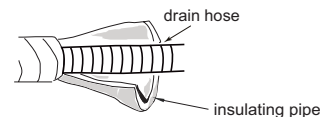

Fig.10
3. Add insulating pipe in the indoor drain hose in order to prevent condensation. (As show in Fig.10)